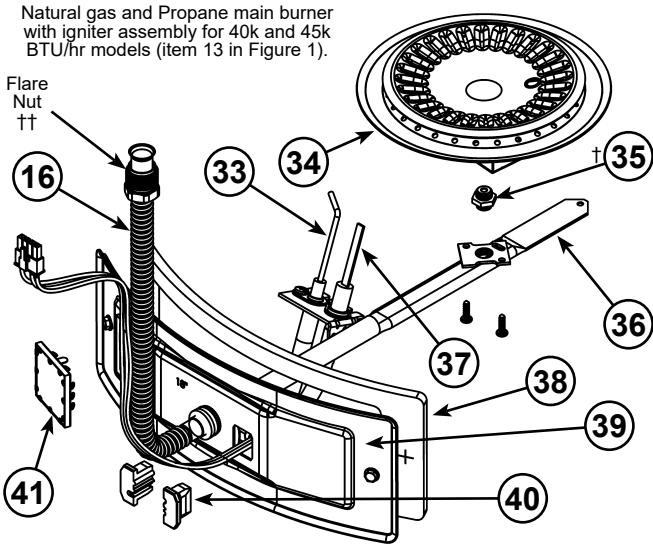
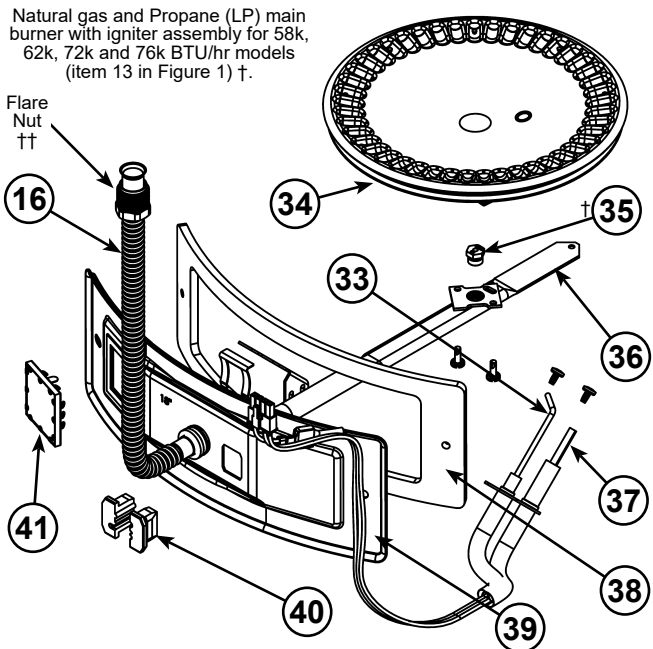
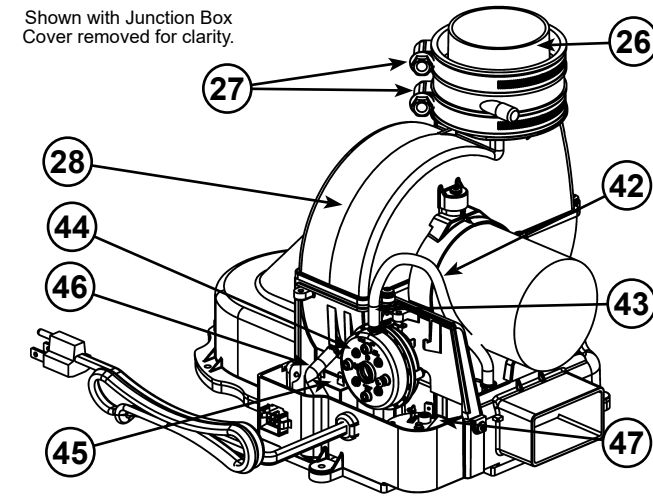

Figure 3.
Figure 4.
Figure 5.
| 1 Termination Elbow with Vent Screen | 16 Flexible Manifold Tube (see Figure 3 & Figure 4) | 35 Gas Orifice (see Figure 3 & Figure 4) |
| 2 *Vent Pipe | 17 ***Control Harness | 36 Gas Manifold (see Figure 3 & Figure 4) |
| 3 *Vent Pipe Elbow (long radius) | 18 *Sediment Trap | 37 Hot-Surface Igniter (see Figure 3 & Figure 4) |
| 4 *Union (Di-electric water connection) | 19 *Ground Joint Union (gas connection) | 38 Manifold Door Gasket (see Figure 3 & Figure 4) |
| 5 Cold-Water Inlet Nipple/Diptube | 20 *Main Manual Gas Shut-off Valve | 39 Manifold Door (see Figure 3 & Figure 4) |
| 6 **Combo Heating System Supply Outlet (Optional) | 21 *Gas Supply* | 40 Two Piece Grommet With Clip (see Figure 3 & Figure 4) |
| 7 T&P Valve | 22 Anode (under cap) | 41 Viewport (see Figure 3 & Figure 4) |
| 8 *Discharge Pipe | 23 Baffle Assembly | 42 Air Tubing (Intake) (see Figure 5) |
| 9 **Combo Heating System Return Inlet (Optional) | 24 Hot-Water Outlet Nipple/Anode | 43 Blower High Limit Switch (see Figure 5) |
| 10 Gas Control Valve/Thermostat (Honeywell) | 25 *Inlet Water Shut-off Valve | 44 Intake Air Pressure Switch (NC) (inside box) (see Figure 5) |
| 11 Drain Valve | 26 ****Rubber Coupling (see Figure 5) | 45 Capacitor (see Figure 5) |
| 12 Outer Gas Door | 27 Gear Clamp (see Figure 5) | 46 Air Tubing (Exhaust) (see Figure 5) |
| 13 Manifold Door Assembly (behind outer door) (see Figure 3 & Figure 4) | 28 ***Blower with Power Cord (see Figure 5) | 47 Exhaust Air Pressure Switch (NO) (inside box) (see Figure 5) |
| | 33 Flame Sensor Rod (see Figure 3 & Figure 4) | |
| | 34 Sheet Metal Burner (see Figure 3 & Figure 4) | |
This device is located on the blower (see Figure 5, item 43) and limits the maximum temperature of the blower. If the blower temperature rises above the temperature setting, the switch opens causing the heater to shut down.
The blower/heater is equipped with two air pressure switches located in the junction box (see Figure 5, item 44 and item 47). These devices are connected in series and monitor the air pressure produced by the blower. In the event that the exhaust venting becomes blocked or sufficiently restricted, the normally open (NO) air pressure switch will shut down the heater. In the event that the intake pipe becomes sufficiently blocked or restricted, the normally closed (NC) air pressure switch will shut down the heater.